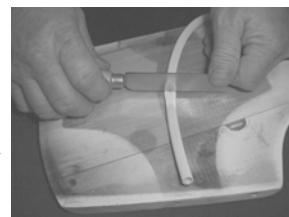

Fig. 3
C. Use a sharp-bladed knife and cut through the rubber in one smooth, downward motion which will keep the end free of ragged pieces. **(Fig. 3)**